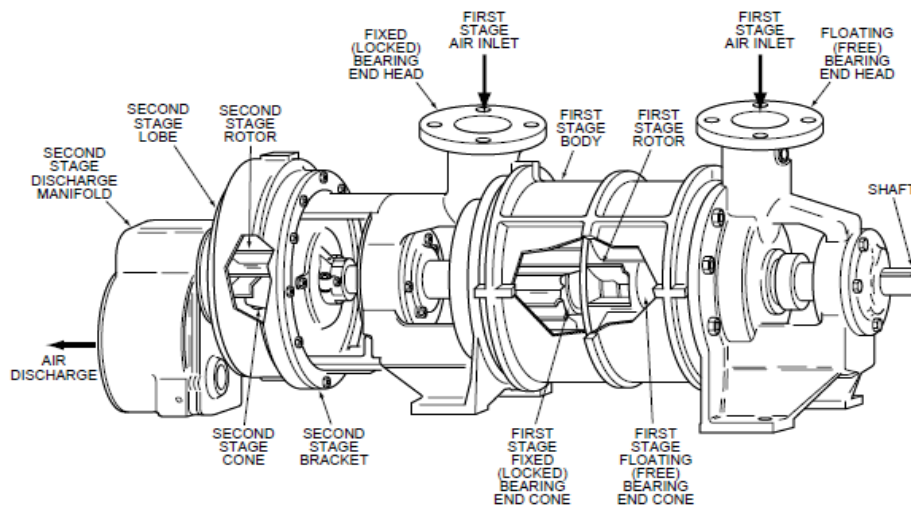

Fig. 1.1 Functional Elements of NES NAT Two Stage Vacuum Pump
a. The key elements of the vacuum pump are depicted in Figure 1.1. A direct or v-belt coupling connects an electric drive motor to a common pump drive shaft, which serves both stages of the two-stage vacuum pump. Rotors in each stage are firmly affixed to the shaft and rotate at the same speed.